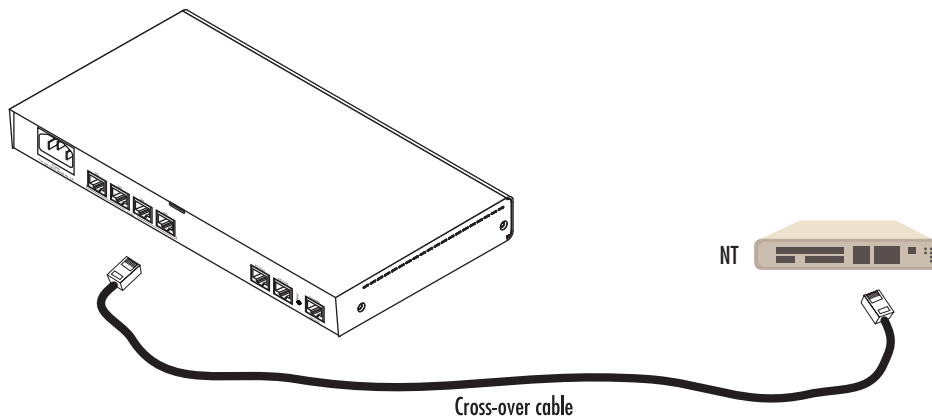

Figure 15. Connecting a T1 PRI port to an NT device
The T1 PRI is usually connected to a PBX or switch—local exchange (LE). Type and pin outs of these devices vary depending on the manufacturer. In most cases, a straight-through RJ-45 to RJ-45 can be used to connect the PRI with a PBX. A cross-over cable is required to connect to an NT device, as illustrated in figure 15 on page 59.